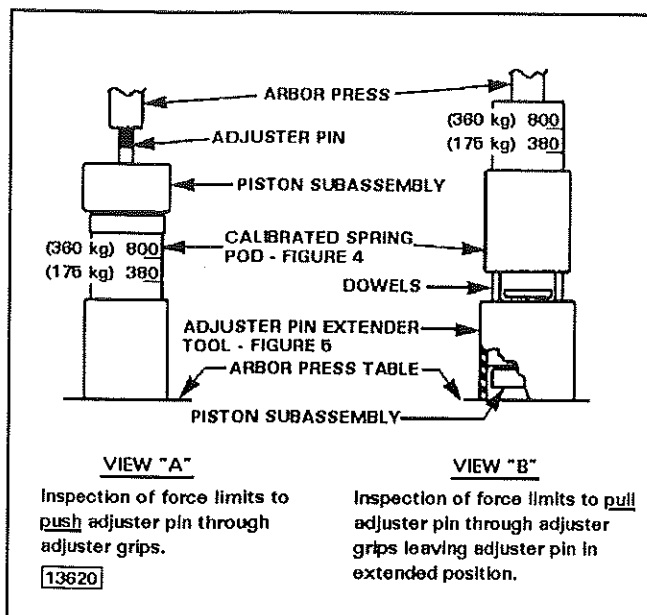

FIGURE 6 - CHECKING ADJUSTER GRIP SPRING FORCE
7. Drop in three 0.375 inch (9.5 mm) dowel pins as shown in Figure 6. Place the pod tool on top of the dowels.